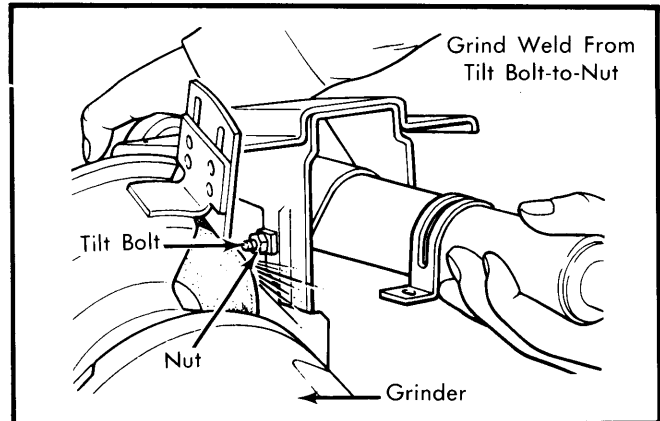

Fig. 2 Grinding Weld Joining Tilt Bolt to Nut (Challenger & Sapporo Only)
2) Unplug column switch connections and pull out switch. Remove tilt bracket bolts and remove column as an assembly. On Challenger and Sapporo models, grind off the weld joining the tilt bolt to nut by using a grinder. See Fig. 2. On Pickup models, cut slot in head of bolt of wheel lock bracket. Remove wheel lock bracket and tilt bracket.